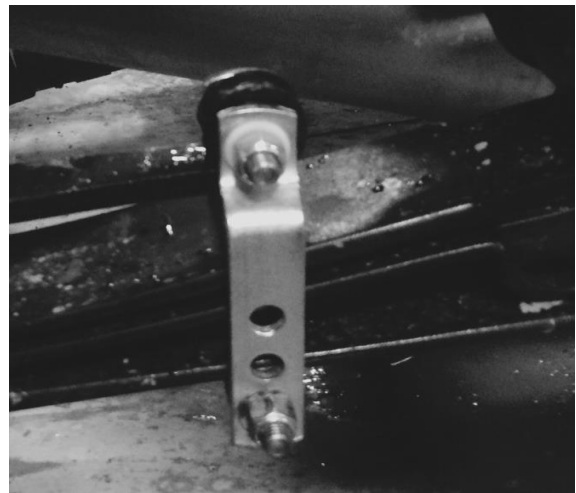

Fig. 4
Step 6: Attach rear shackle (Fig. 4)